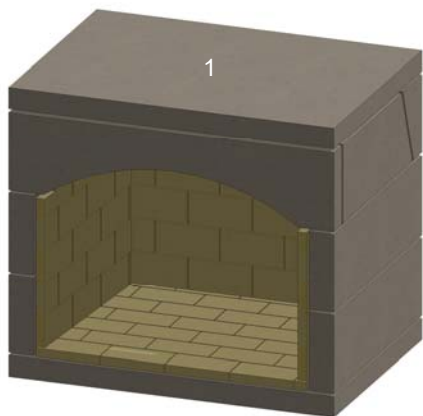

Figure 18. Firebox Top Plate
L. Install the firebox top plate (1), checking for level. See Figure 18.
The recommended cooking temperature range for this wood fired oven is 350° to 600°F. Time of cooking will depend on the temperature and the item being cooked. The floor is the heat source that will do most of the cooking. An infra-red temperature gauge like that shown in Figure 18 can be used to measure temperature at any location in and around the oven.